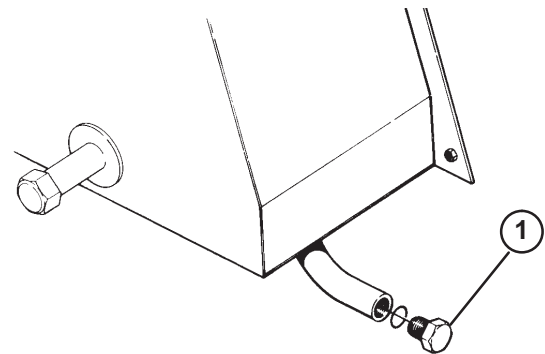

Figure 42
- Open drain plug (Fig. 42) one-half turn and allow fluid to flow into drain pan until water is not noticed in hydraulic oil.
1. Remove drain plug (Fig. 42) from reservoir and let hydraulic oil flow into drain pan. Tighten plug when hydraulic oil stops draining.